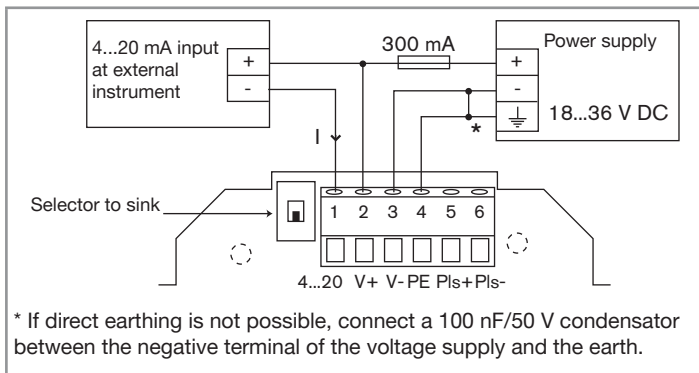

Fig. 18: Connection of the current output in sinking mode
- Set the selector of the electronic board to the sourcing or the sinking position (see Fig. 17 or Fig. 18).
- Connect the 4...20 mA output in sourcing mode (see Fig. 17) or in sinking mode (see Fig. 18).
- Earth the device (see Fig. 17 or Fig. 18).